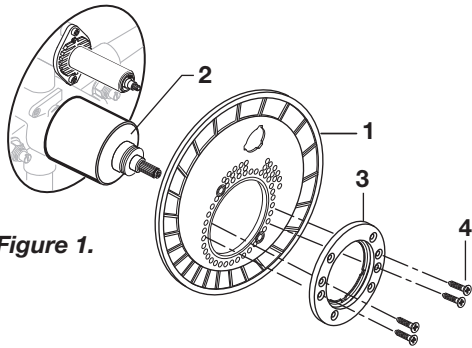

Figure 1.
- **Figure 1.** Push ESCUTCHEON HOLDER (1) with gasket onto HANDLE BASE (2) tight against finished wall. Mount ESCUTCHEON SUPPORT (3) to ESCUTCHEON HOLDER (1) with SCREWS (4).